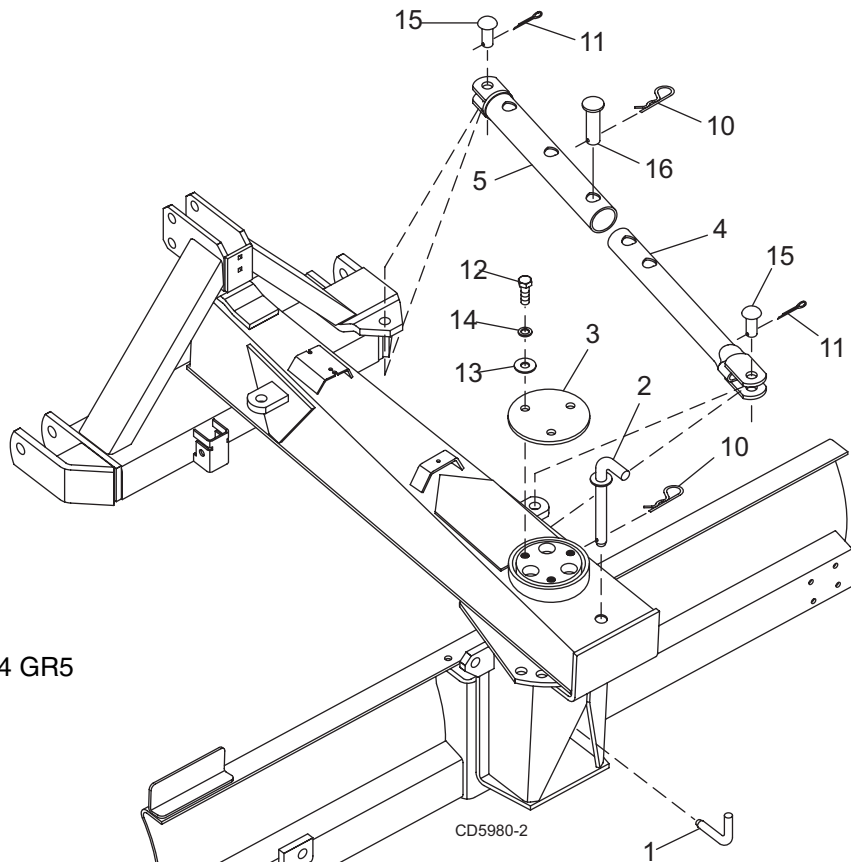

Figure 13. Manual Configuration
1. Model M only - Place boom and pivot assembly to desired position. Align holes at bottom of pivot assembly and insert tilt lock pin (1) as shown. Rotate pin to lock into position.
2. With boom 90 degrees to the blade, place retaining cap (3) on boom as shown in Figure 13.
3. Install three cap screws (12), lock washers (14), and flat washers (13) to secure boom to blade assembly.
**NOTE:** For model MT, do not install front cap screw, (12) at this time.
4. Rotate boom to desired position. Install lock pin assembly (2) through end of boom and pivot assembly. Secure with safety pin (10).
5. Insert inner swing link (4) into outer swing link (5).
6. Attach outer swing link to the A-Frame and insert clevis pin (15). Secure with cotter pin (11).
7. Attach inner swing link (4) to the boom and insert clevis pin (15). Secure with cotter pin (11).
8. Rotate A-Frame to desired position. Align holes in inner and outer swing links and insert lock pin (16). Secure with safety pin (10).
1. Remove lock pin assembly (2) and safety pin (10) from rear of boom, if previously installed. See Figure 13 on page 18 for lock pin assembly location.
2. Remove hardware and retaining cap (3) from top of boom if previously installed. See Figure 13 on page 18 for retaining cap location.
**NOTE:** Remove tilt lock pin (1) before installing hydraulic tilt kit. See Figure 13 on page 18 for lock pin location
1. Attach hydraulic cylinder (1) to blade assembly and pivot assembly as shown. Secure with pins supplied with the cylinder.
2. Install adjustable elbows (2) and hoses (6) to cylinder.
3. Attach hose holder (4) to A-Frame using carriage bolt (18), flat washer (19), and lock nut (20). For models with hydraulic angle (TA) proceed to page 21 for hose routing.
4. Attach hose clamp (3) to hose support (5) using cap screw (15), lock washer (16), and hex nut (17). Do not tighten at this time.
5. Remove cap screw (21), lock washer (23), and flat washer (22) from forward position on retaining cap as shown.
6. Position hose support (5) over hole and reinstall hardware.